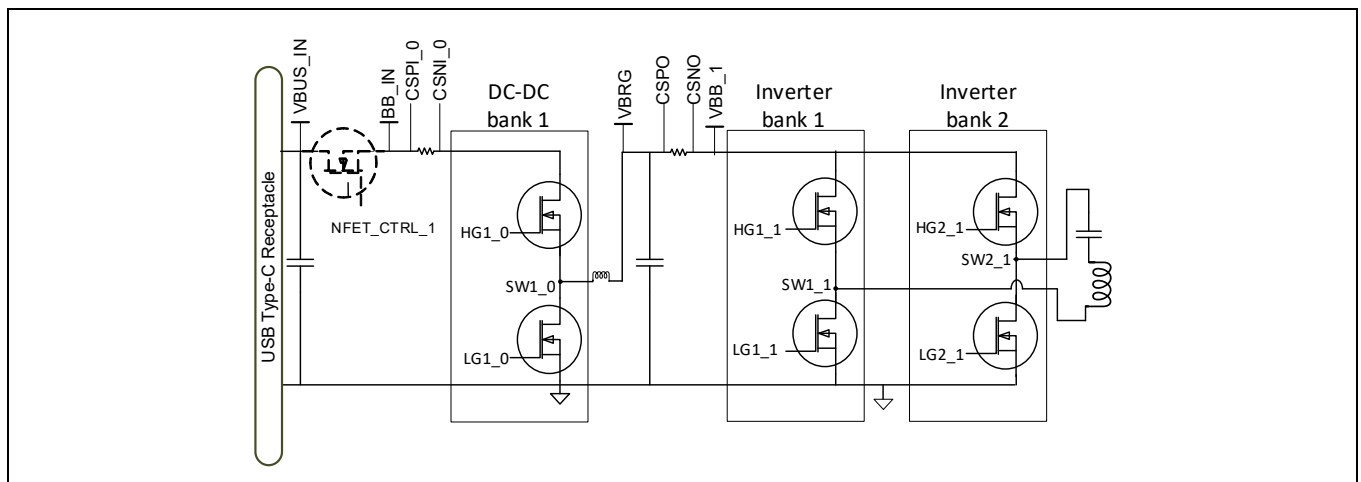

Figure 2 WLC1115 key pin mapping with buck and inverter power supplies^[3]
- Refer **Figure 2** for an overview of key WLC1115 pin mapping to power input, current sense and gate drivers of buck and inverter power supplies.